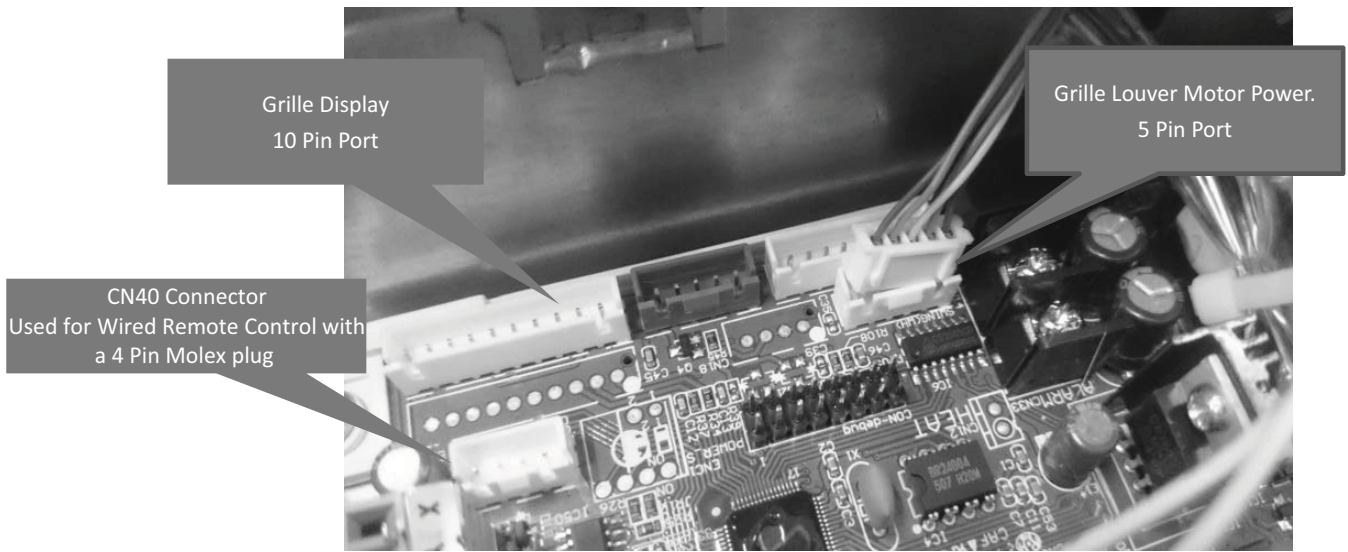

Fig. 29 – Panel Cassette Connections
5. Connect the decoration panel's two wires to the unit's mainboard (see Fig. 29).